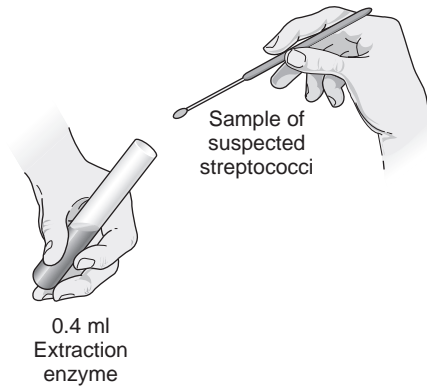

FIG. 18.4. Mix a loopful of the suspected streptococcus in 0.4 ml extraction enzyme to release the antigen.
3. Using a loop, transfer four suspected streptococcus colonies into the small test tube of extraction enzyme. Mix well. Incubate the test tube for 10 to 15 minutes in the 37°C incubator. (If the strep is in broth, transfer 4 to 5 loopfuls.) (See Fig. 18.4.)